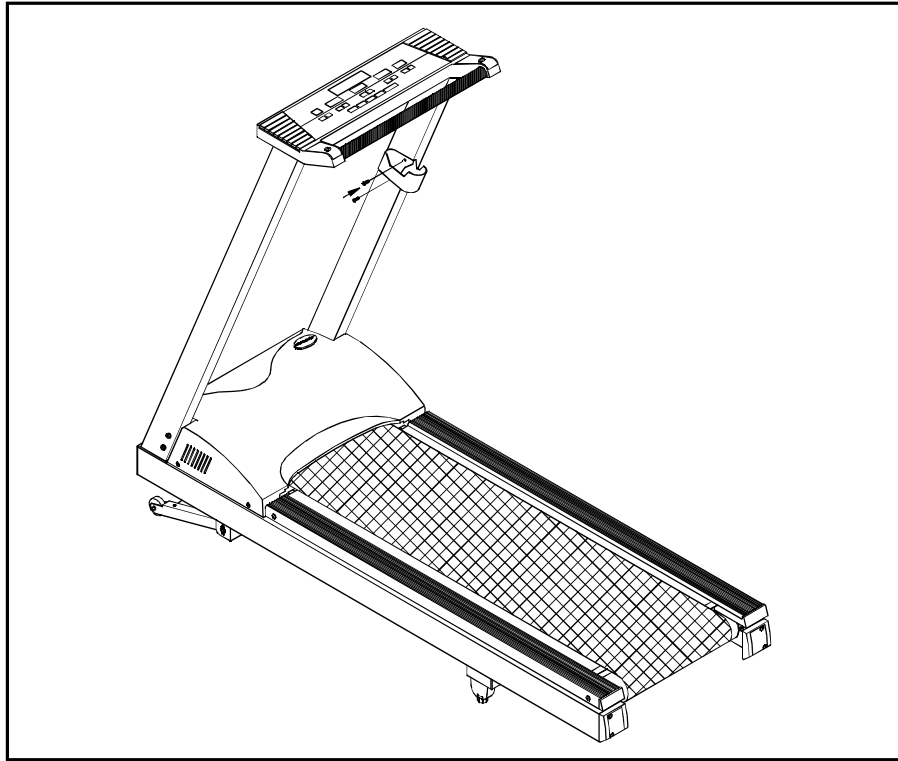

FIG.3
3. Assemble the water bottle/personal stereo holder to the right front post using the screws provided.(see Fig. 3).